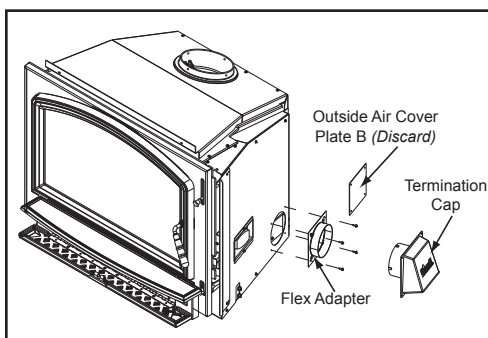

Figure 40.2
1. Remove the outside air cover plate B on outer can and discard. **Figure 40.2.**